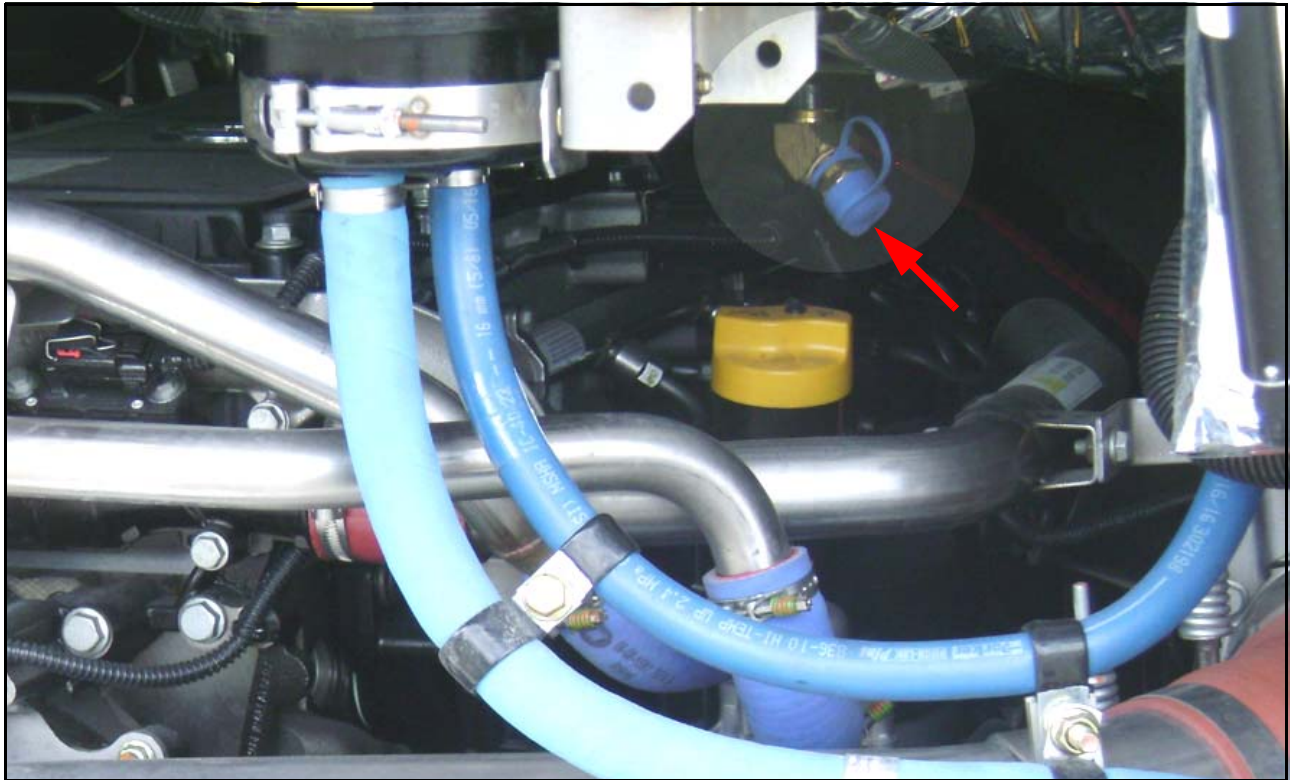

Figure 1. Amerex nozzle location in the engine compartment.
4. Locate the Amerex hose / nozzle assembly and mounting bracket in the upper curbside section in the engine compartment shown in Figure 1.